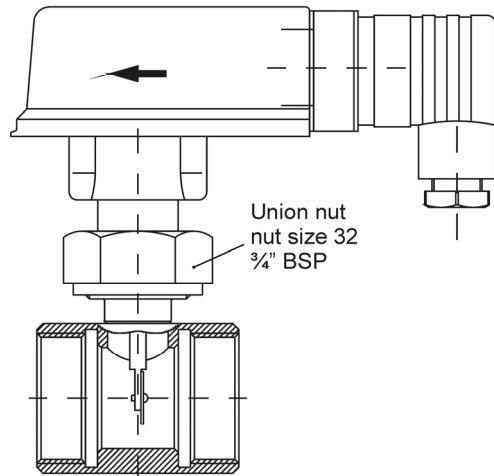

Fig. 5
- ✚ Flow switches optionally equipped with a copper tube section (Fig. 5) have to be soldered to the pipe. The flow switch (body with paddle system) and the o-ring have to be disassembled from the tube section when soldering to prevent overheating.